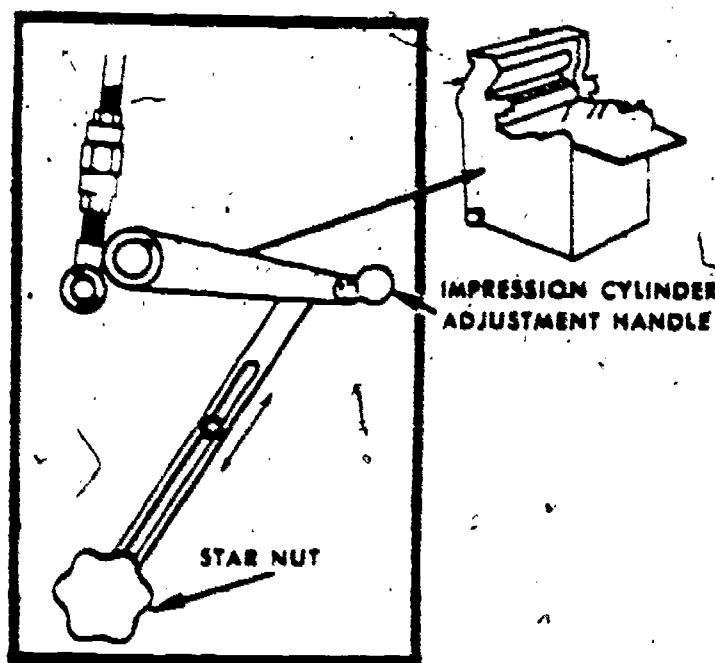

Figure 8-24. Impression cylinder adjustment handle—ATF Model DP.
Impression cylinder adjustment handle	Used to adjust the pressure between the blanket cylinder and the impression cylinder to obtain the correct printing pressure when printing on various thicknesses of stock or when the thickness of the blanket and packing on the blanket cylinder has been changed (fig. 8-24).
(1) There are no bearers on the impression cylinder, which means the cylinder can be moved into proper contact with the blanket cylinder when using different weights of stock or when the blanket is packed below the height of the blanket cylinder bearers.
(2) To permit the correct .003 inch "printing pressure" when printing on various thicknesses of stock and to allow for various heights of blanket and packing, the impression cylinder is provided with an eccentric movement. This movement is controlled by the impression cylinder adjustment handle (fig. 8-24) located on the operator's side of the press behind the automatic pile receder. To